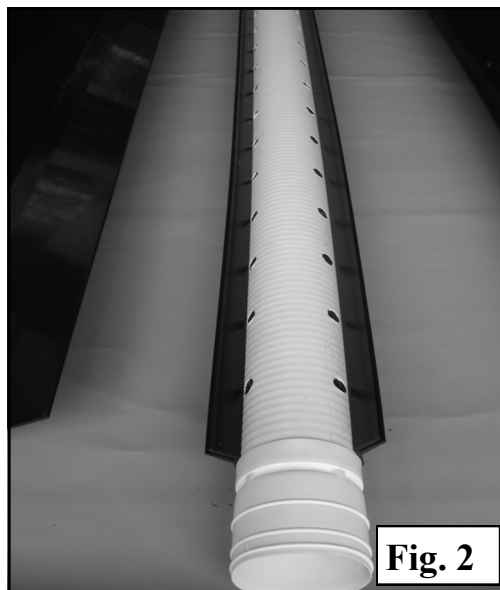

Fig. 2
1. Snap the drain pipe into the drain retainer for the entire length as shown in Fig. 2.
2. With supplied screws, secure the drain pipe to the drain retainer so the rows of holes are visible as shown in Fig. 2.